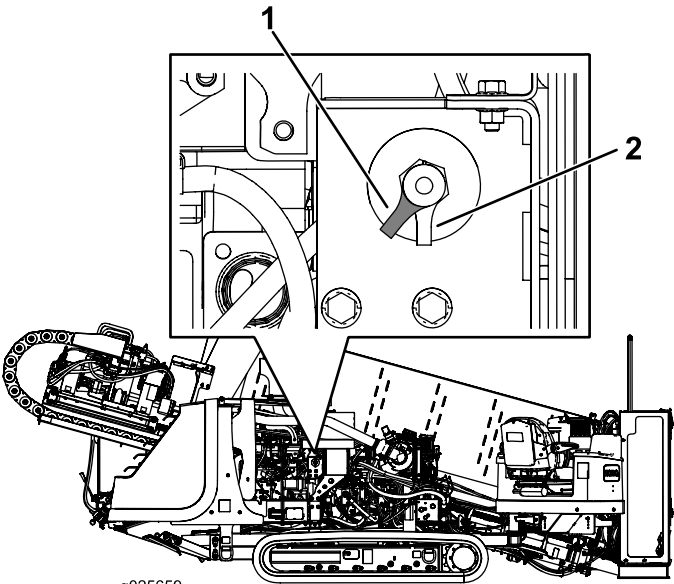

Figure 47
- To energize the machine electrically, rotate the BATTERY-DISCONNECT switch clockwise to the ON position (Figure 47).
- To de-energize the machine electrically, rotate the BATTERY-DISCONNECT switch counterclockwise to the OFF position (Figure 47).